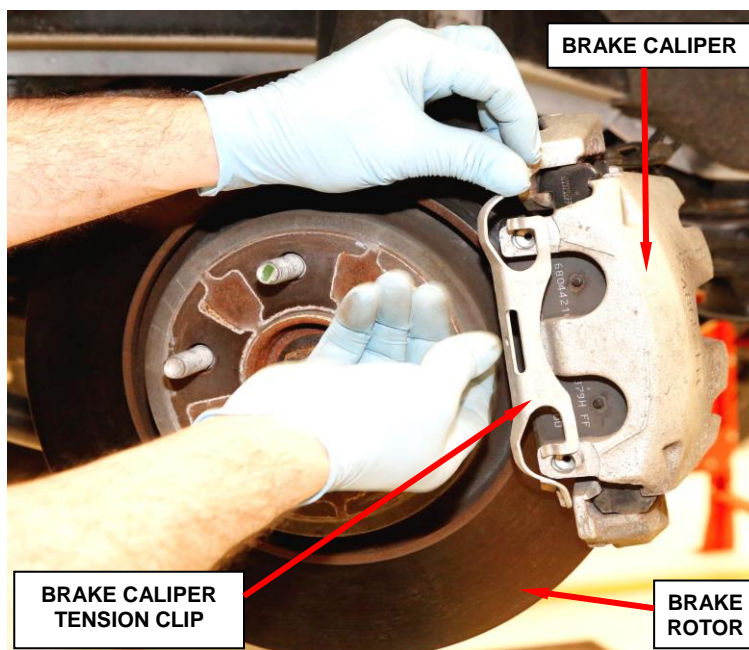

Figure 10 – Install Brake Caliper Tension Clip
15. Install the brake caliper tension clip (Figure 10).